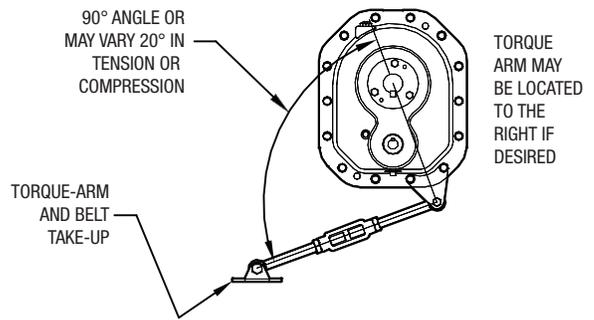

Figure 4 - Angle of Torque-Arm
- Install torque arm fulcrum on a flat and rigid support so that the torque arm will be approximately at right angles to the centerline through the driven shaft and the torque arm anchor screw. (See Figure 4) Make sure that there is sufficient take-up in the turnbuckle for belt tension adjustment when using V-belt drive.